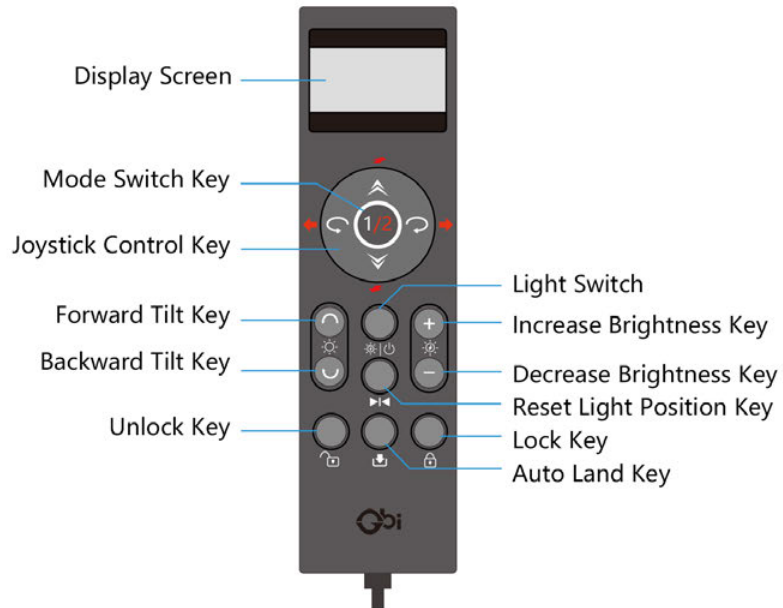

Figure 6: The Diagram Of Remote Controller Button Functions
a.The Diagram Of Remote Controller Button Functions (Refer To Figure 6)
c.The Functions And Operation Instructions Of Each Part Of The Remote Controller (Refer To Page 9, Figure 6)